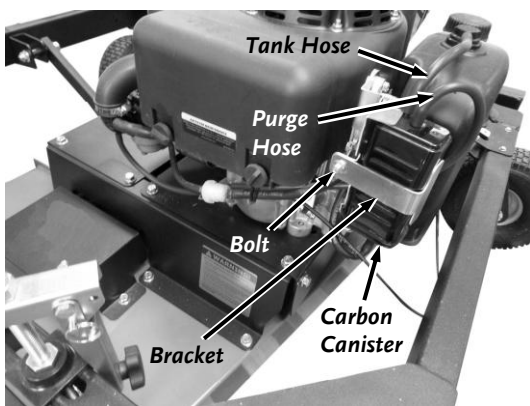

Figure 53
1. Pull the two hoses from the top of the Carbon Canister (**Figure 53**).